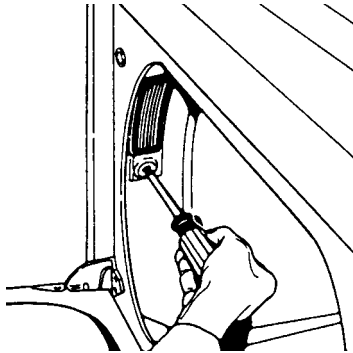

Fig. 17
- Open dryer door. Remove the drum lamp cover screws. (Fig. 17)